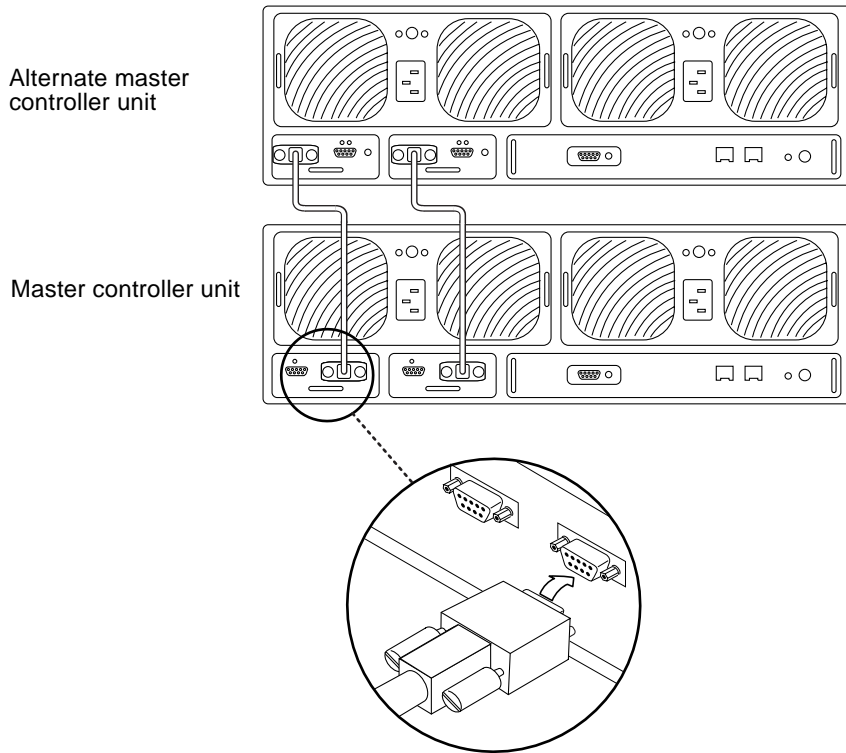

FIGURE 2-14 Connecting the Interconnect Cables
10. Partner group only: Connect the interconnect cables to the interconnect cards as shown in FIGURE 2-14.